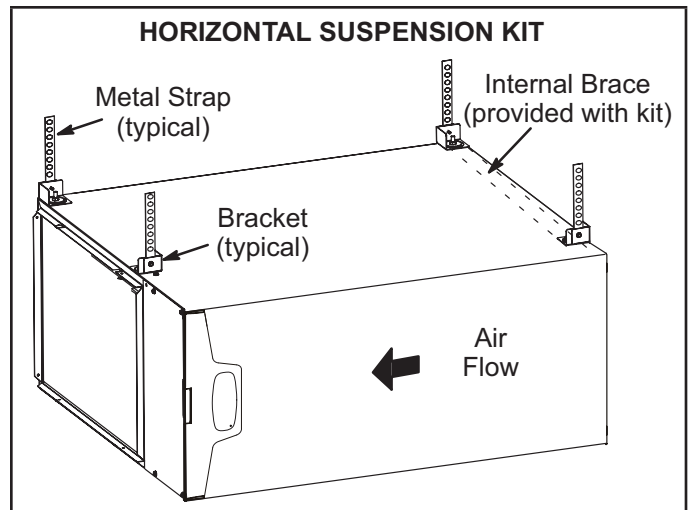

**FIGURE 17**
The EL296UHE furnace can be installed in horizontal applications with either right- or left-hand air discharge. Refer to FIGURE 17 for clearances in horizontal applications.
- 1 - Select location for unit keeping in mind service and other necessary clearances. See FIGURE 17.